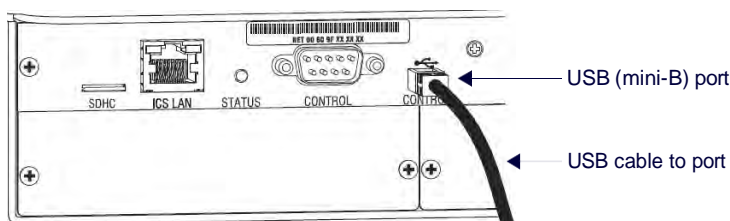

FIG. 185 USB cable connected to USB port on Enova DGX 3200 and to PC
3. Connect the enclosure to a PC running Windows with USB cable (FIG. 185):